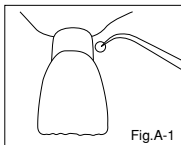

Fig.A-1
- b) Dry by blotting with a cotton pellet or gently blowing with an air syringe (Fig.A-1). DO NOT DESICCATE. Best results are obtained when prepared surfaces appear moist (glistening).